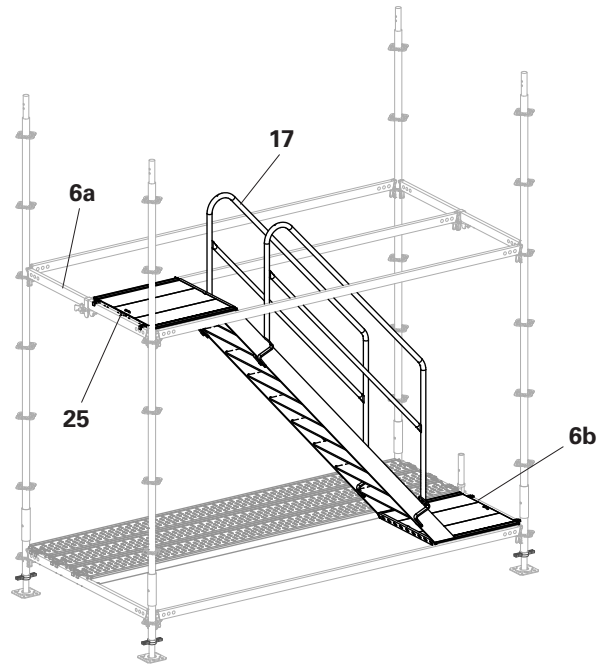
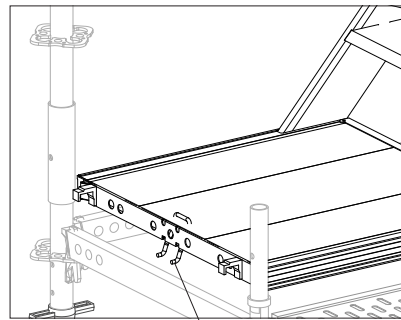
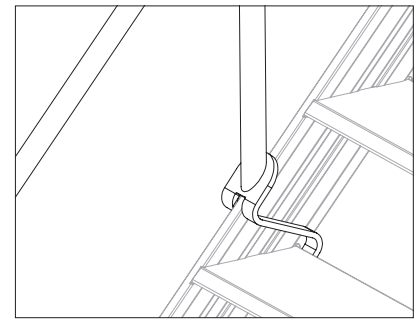

Fig. B3.05
Fig. B3.05a
Fig. B3.05b
1. Attach the Flex Stair UAS-2 (25) to the upper horizontal ledger (6a) first, then to the lower horizontal ledger (6b). (Fig. B3.05 + Fig. B3.05a)
2. Fit 2 x Stair Guardrails UAG (17). (Fig. B3.05 + Fig. B3.05b)